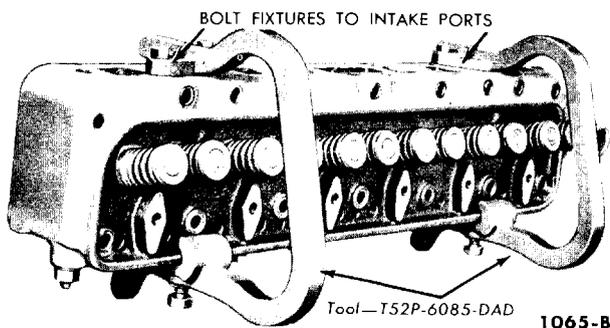
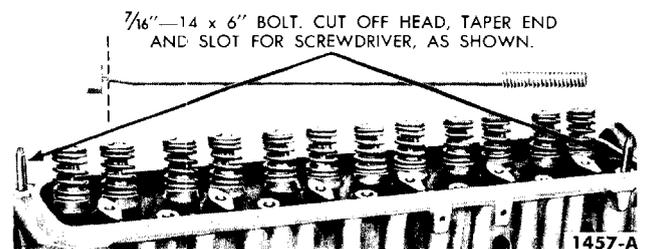

FIG. 12—Cylinder Head Holding Fixture
FIG. 13—Cylinder Head Guide Studs
7. Install the cylinder head holding fixtures for convenience in lifting the head and to protect the gasket surfaces (Fig. 12). Remove all cylinder head bolts. Install the cylinder head guide studs (Fig. 13). Lift the cylinder head assembly off the engine. **Do not pry between the head and block as the gasket surfaces may become damaged.**